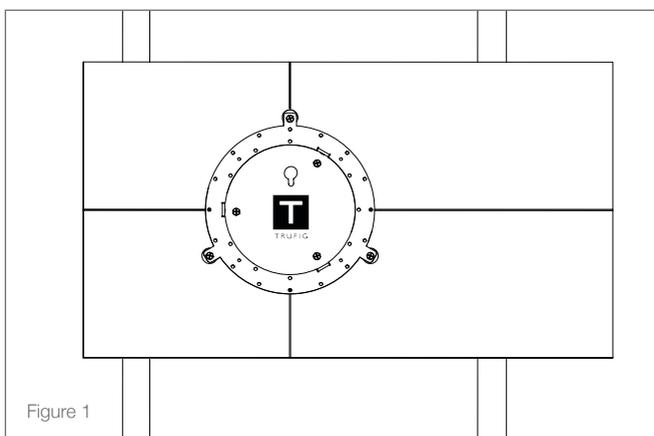

Figure 1
**IMPORTANT: TO ACHIEVE PROPER ALIGNMENT OF THE JOSH LOGO, THE MOUNTING PLATFORM SHOULD BE POSITIONED AND INSTALLED HORIZONTALLY, IN EITHER DIRECTION (SEE FIGURE 1).**
**IMPORTANT: TO ACHIEVE PROPER ALIGNMENT OF THE JOSH LOGO, THE MOUNTING PLATFORM OR MOUNTING BACK BOX SHOULD BE POSITIONED AND INSTALLED HORIZONTALLY, IN EITHER DIRECTION SO THAT THE BACK BOX OPENING AND ALIGNED BACK BOX TAB ARE FACING UPWARD OR DOWNWARD (SEE FIGURE 1).**